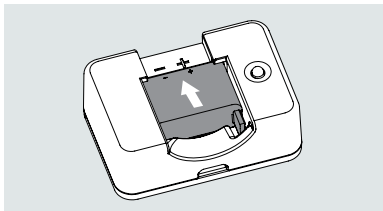

Figure 11
2. The Ambulatory insulin infusion pump battery is inserted into the charger as shown in Figure 11.